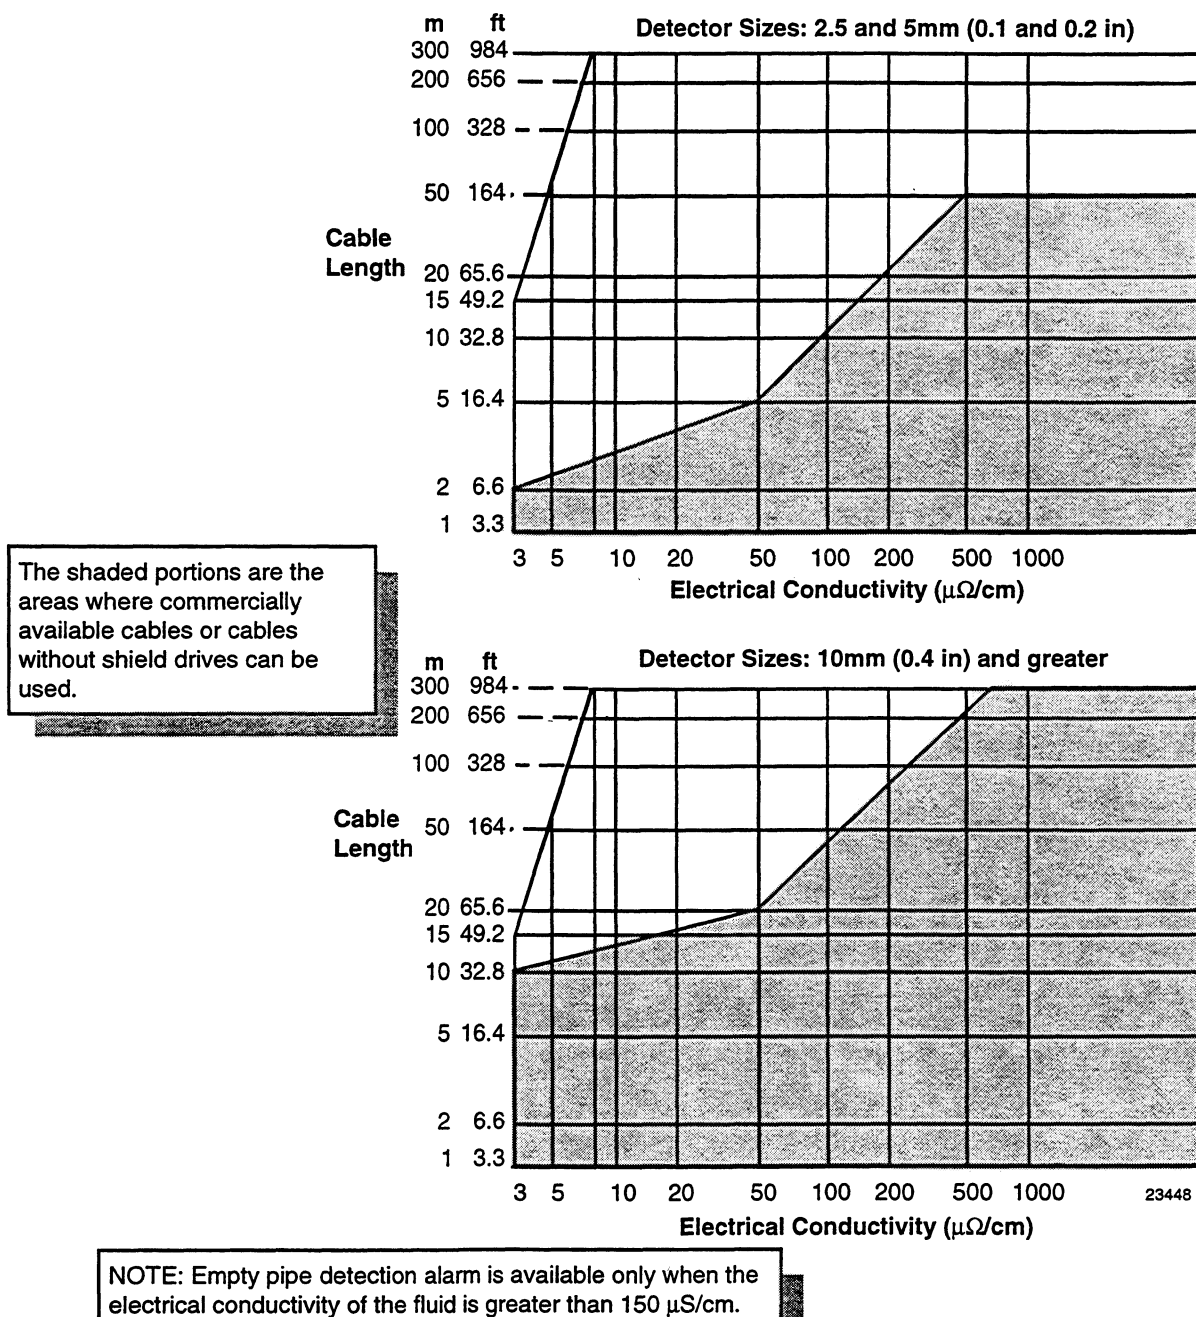

Figure 9—Cable Length Versus Fluid Conductivity
- The length of the cable between the detector and the converter depends on the electrical conductivity ($\mu\text{S/m}$) of the fluid to be measured. (Refer to Figure 9 on page 10.)
Figure 9 shows the relation between fluid conductivity and cable length.